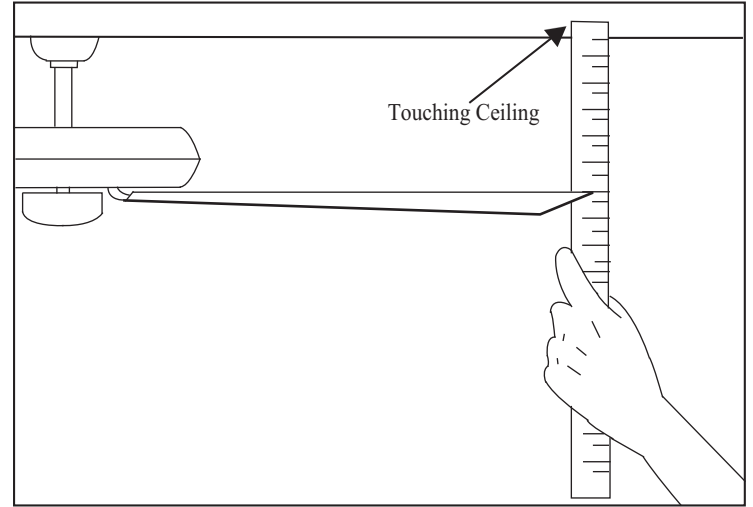

Figure 20
2. Most fan wobble problems are caused when blade levels are unequal. Check this level by selecting a point on the ceiling above the tip of one of the blades. Measure from a point on the center of each blade to the point on the ceiling. Measure this distance as shown in Figure 20. Rotate the fan until the next blade is positioned for measurement. Repeat for each blade. Measurements deviation should be within $1/8$ ". Run the fan for 10 Minutes.